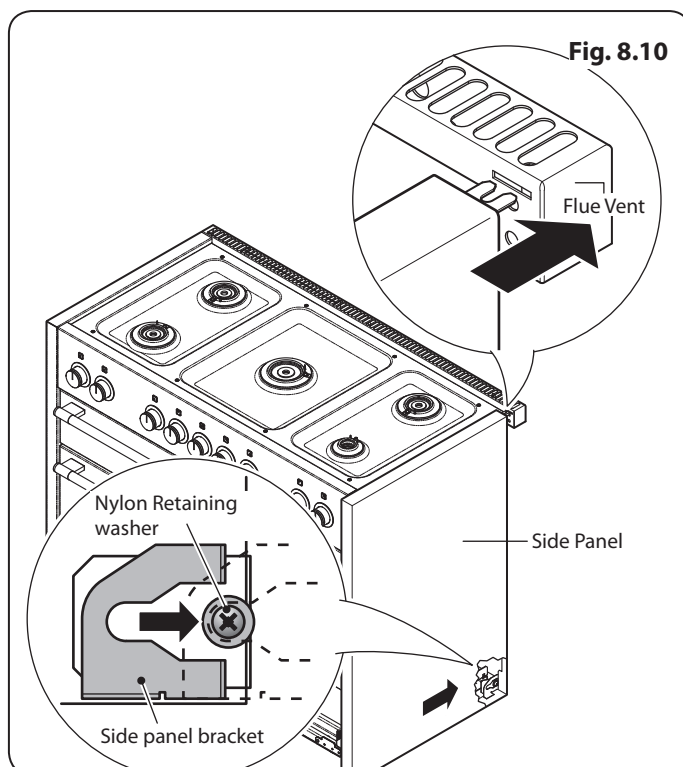

Fig. 8.10
3. Slide the side panel back so that the **side panel bracket** in the base connects to the **rear retaining washer** and the slotted tab at the top rear connects onto the screw in the flue vent (**Fig. 8.10**).